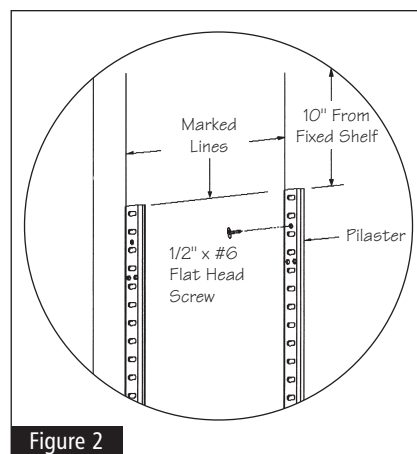

Figure 2
- 3** Place the pilaster in the cabinet so that the back edge is even with the lines marked in Step 1 and the top is even with the lines marked in Step 2. See Figure 2.